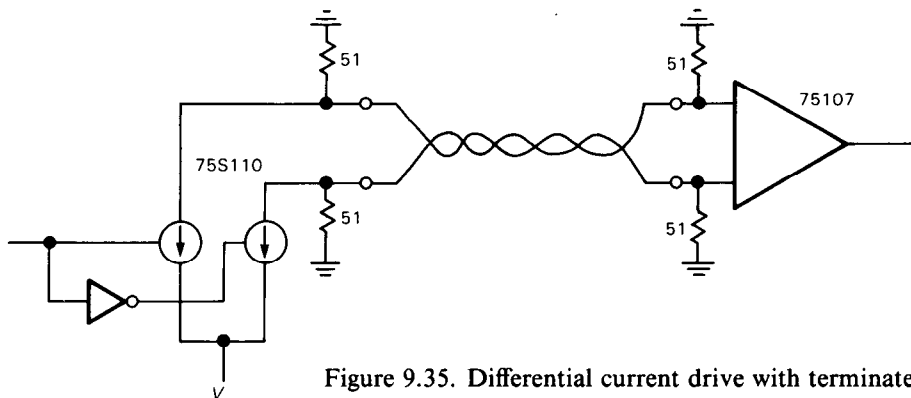

Figure 9.35. Differential current drive with terminated receiver.
□ **Current-sinking drivers.** Chips like the 75S110 and MC3453 have switched current-sinking outputs, which can be used as single-ended outputs or in a differential mode, as in Figure 9.35. The 75107 is a companion differential receiver chip, normally used with a termination as shown. Several drivers can share a common differential line in a “party line” configuration, since their outputs can be disabled via a “three-state” enable; in that case the terminations at each driver are omitted, and moved to the end of the line farthest from the receiver.